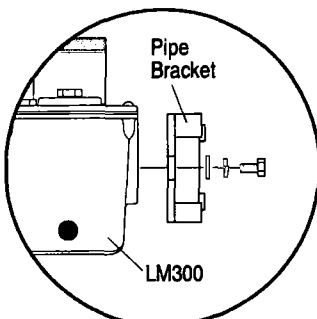

Figure 1A
2. Install the pipe bracket to the LM300 using two 3/8-16 UNC x 1 inch bolts supplied. See Figure 1A.